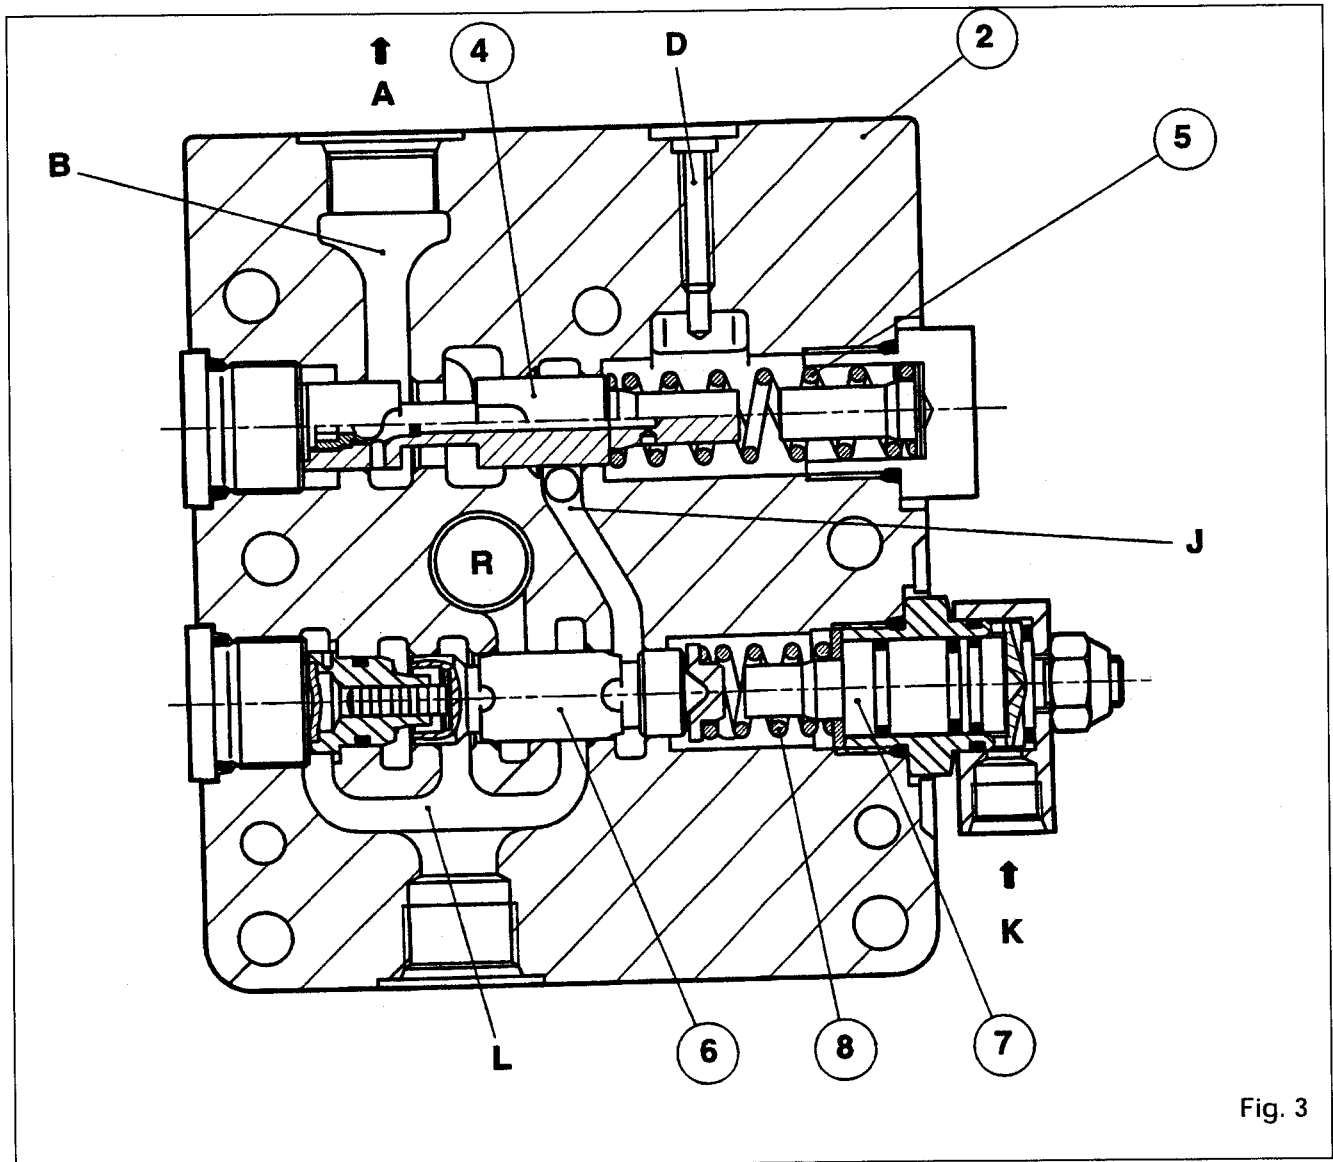

Fig. 3
Steering override spool (4) (Fig. 3)
Trailer brake spool (6) (Fig. 3)
The override unit **(50)** which includes two spools (Fig. 3) installed on the right-hand cover **(54)** receives flow from the variable displacement pump. It ensures that priority flows are provided to the steering circuit via the trailer brake unit (if fitted) and the low-pressure circuit (17 bars). The oil is then conveyed to the lift control valve and the auxiliary spool valves.